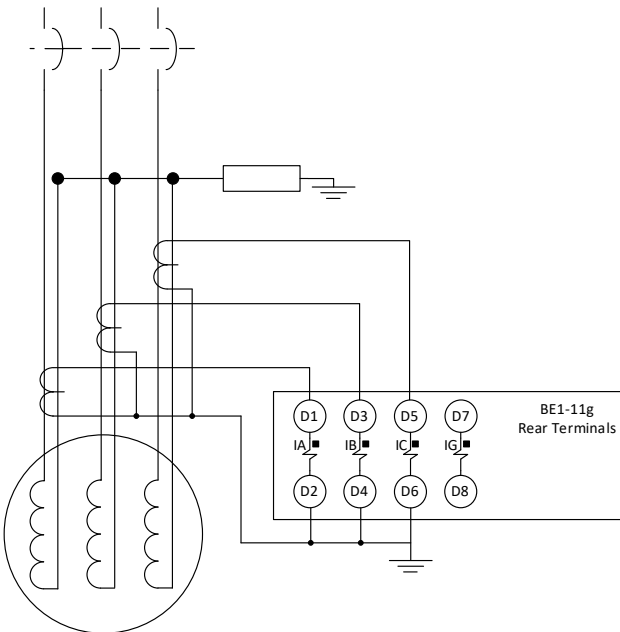

Figure 4 - Self-Balancing Protection Connections
Small generators tend to use self-balancing CT configurations because the physical size of the winding leads works well in an application with window CTs. Less expensive, low accuracy-class, low-ratio CTs can be used for adequate phase-fault and ground-fault protection of the generator stator. In a self-balancing arrangement, the phase and neutral side of each phase of the winding route through a CT so the net flux is zero under normal conditions, see Figure 4. Typically, a three-phase instantaneous overcurrent element (50) provides self-balancing protection. [2]
If a BEI-11g relay is equipped with the differential option (relay style number G6XXXXJXPXXXX or G6XXXXJXTXXXX), an alternate method can be used to configure self-balancing protection (see Figure 6). In the Phase Differential (87) window of BESTCOMSP*lus*, set the Mode to Flux Balance. In this mode, the BEI-11g compares the setting in the Flux Balance Pickup setting (secondary A) on a per-phase basis to the current in CT circuit 1 (CT1). The link between CT1 and the Flux Balance mode is fixed in firmware; the flux balance circuit must be wired to CT circuit 1 (terminals D1 through D8 in Figure 4). The "Flux Balance" mode is equivalent to a three-phase 50 element. Ignore the Transient Monitor settings when configuring the differential element for Flux Balance mode.